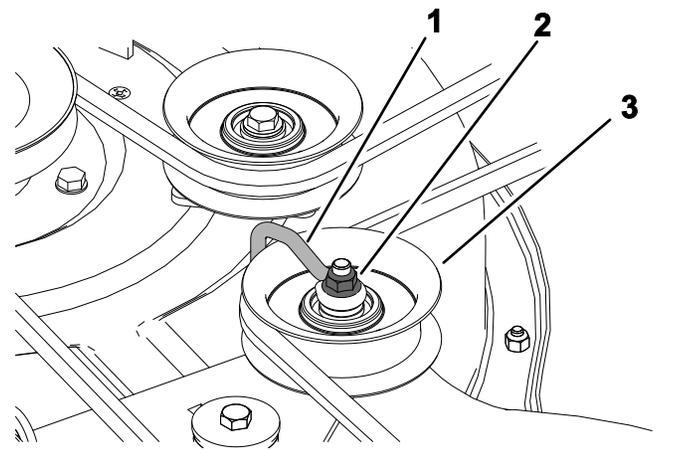

Figure 51
5. Loosen the nut securing the wire form to the idler pulley (Figure 51).
9. Tighten the nut securing the wire form to the idler pulley (Figure 51).
Note: Position the wire form against the idler arm as shown in Figure 51.